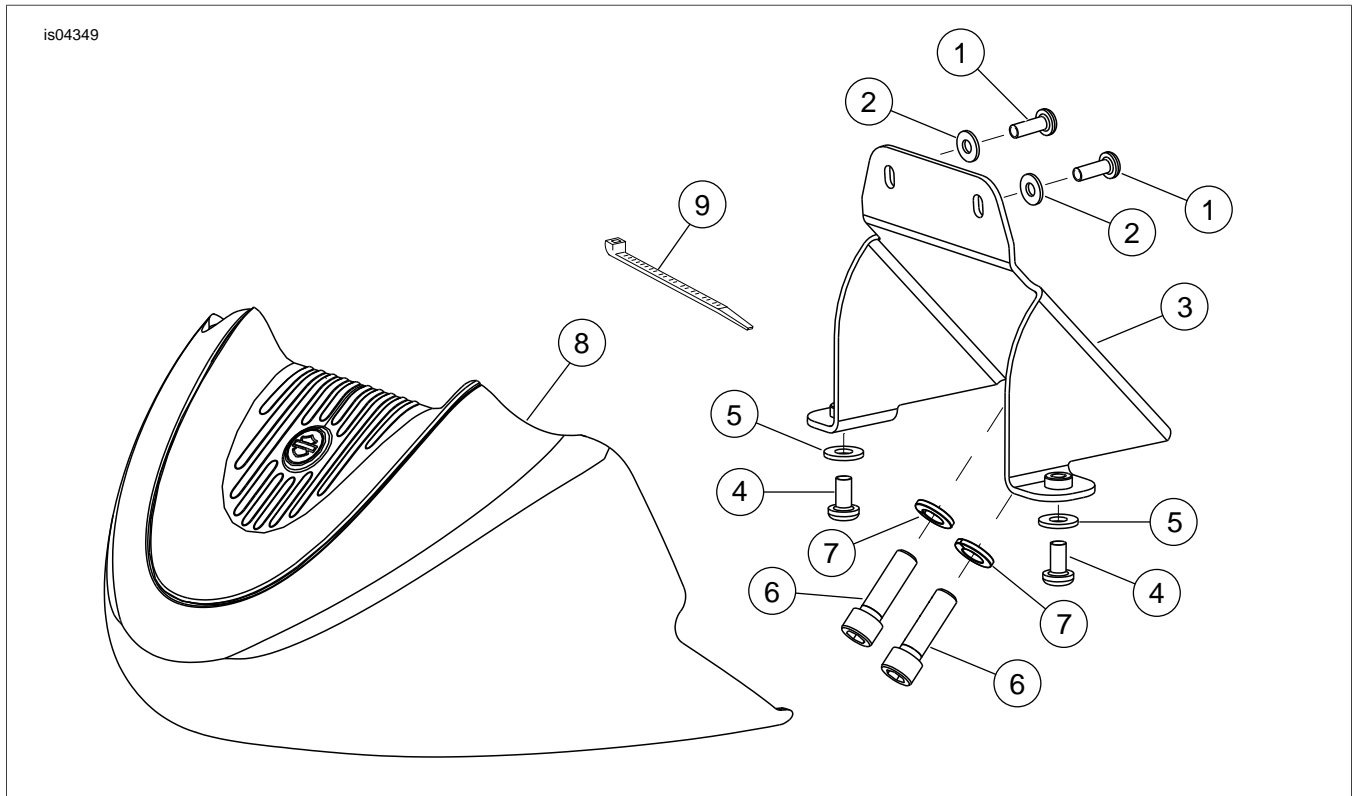

Figure 7. Service Parts: Dyna Glide Front Spoiler Kit
See Figure 7 and Table 1.
7. See Figure 5. Align top slot (B) in spoiler bracket with top hole in lower frame crossmember (B) and install screw (Figure 7, Item 6) and lockwasher (Figure 7, Item 7) until snug.
9. Tighten engine mount screws (Figure 7, Item 6) to 22-27 ft-lbs (29.8-36.6 Nm).
11. See Figure 7. Use cable straps (9) to tie back wiring and clutch cable that might contact and rub against spoiler.